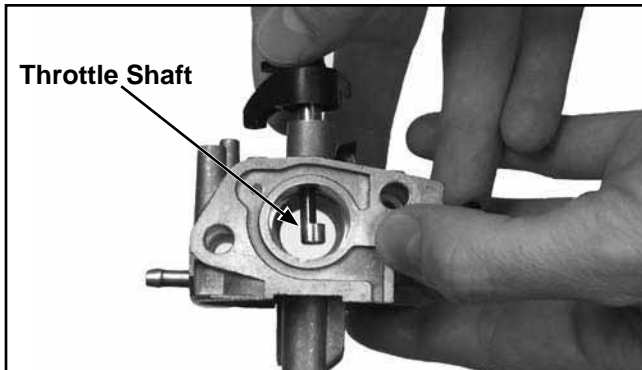

Figure 5-10. Throttle Shaft Removal.
- Remove the throttle-plate screw, the throttle plate, and slide out the throttle shaft, noting throttle lever position. See Figures 5-10 and 5-12.